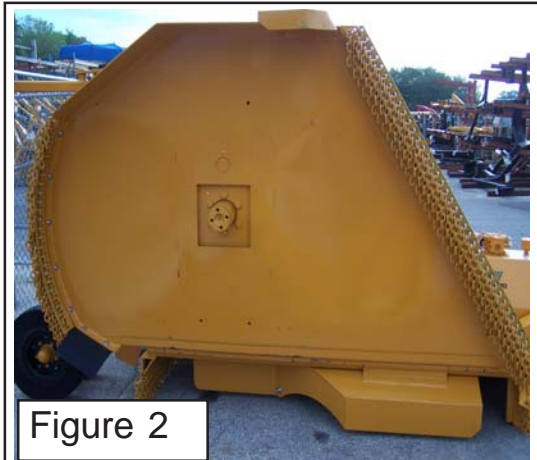

Figure 2
2. Remove the Blade Bar or Pan Assembly (**figure 2**). Use caution, make certain blade carrier is supported before removing the 4 socket head bolts in the center of the blade carrier. It is recommended a hoist with sufficient rating for weight be used to hold blade carriers for wing. Center section blade carrier should be supported by jackstands (at least 3 jackstands) while being unbolted and lowered with a jack that has a large top surface area. **CAUTION: Measure the length of the socket head bolts that mount the blade carrier to the spindle shaft. Make certain not to use bolts that are longer than what was removed. DO NOT screw the bolts into shaft while the spindle assembly is completely assembled. If longer bolts or the ones that came out are screwed in too far the spindle shaft, bearing ring, bearings or other components can be damaged.**